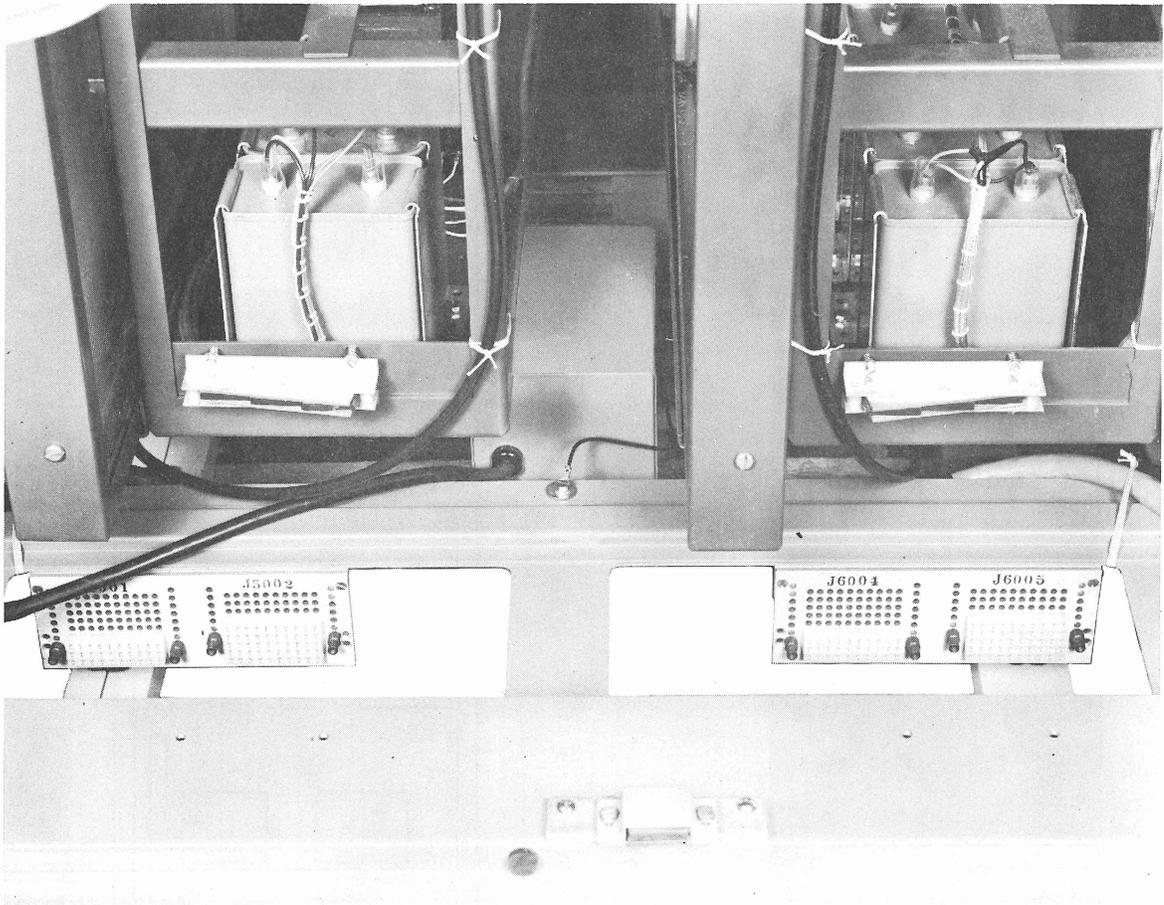

Figure 24 - Rear View Converter Cabinet Showing Input and Output Connectors
15.01 Referring to Figures 24 and 25, the 50 conductor input cables from the Station Controller Cabinet to the Converters should be brought into the rear of the cabinet through the duct provided. Connectors have been conveniently installed at the bottom of the cabinet similar to the connectors at the top raceway. Each